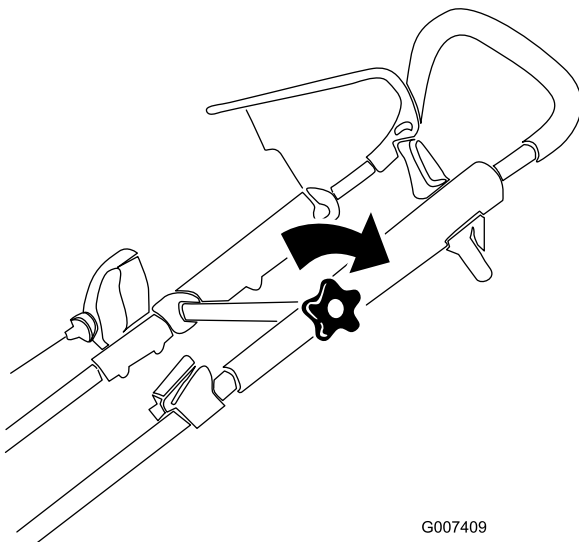

Figure 3
2. Tighten the upper handle knob as tight as you can (Figure 3).